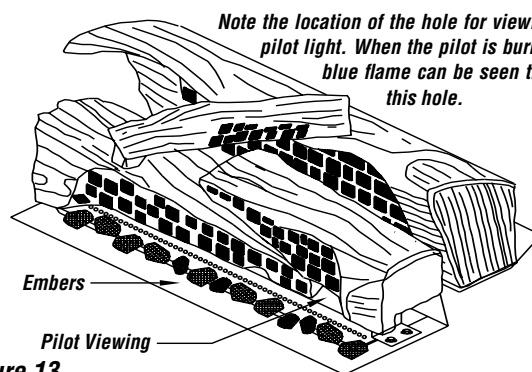

Figure 13
- 6) **Figure 13** shows the entire log set assembled. The embers provided may be placed one high in front of the front burner tube using care not to cover all the burner ports. Any extra embers may be placed at the ends of the front log, off the burner. Place small pinches of rockwool on top of the embers.